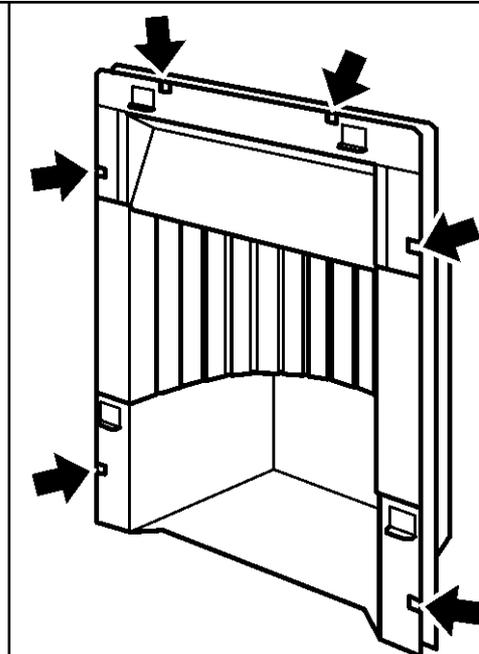

Figure 18. Fitting the edge clips
13. Locate the spacer frame to the rear of the hotbox (**The foam seal must be to the rear of the spacer frame and NOT against the flanges of the hotbox**). Secure the spacer frame to the hotbox using the six edge clips supplied. Position these as in figure 18.